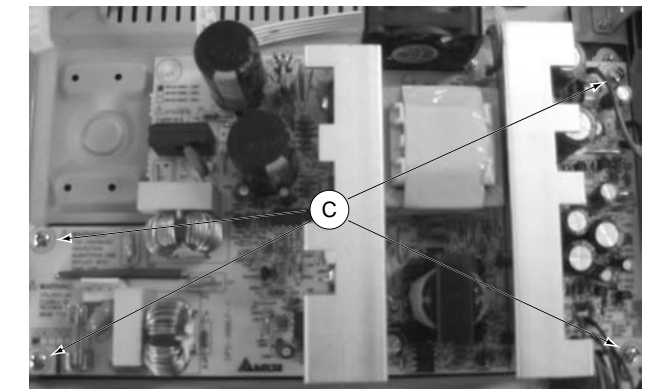

Figure 6
- 2) Loosen 4 screws "C" at the top of the Power Board as shown in figure 6.